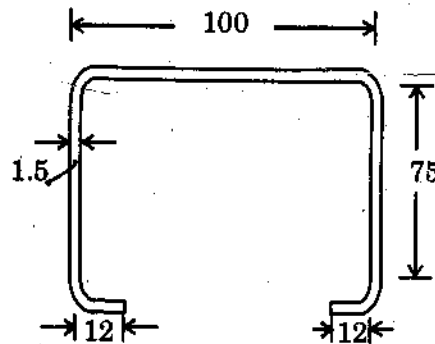

Fig. 2.
18. Determine the allowable load per meter on a beam with cross section as shown in Fig. 2. The beam has an effective span of 2 m. $f_y = 235 \text{ N/mm}^2$.